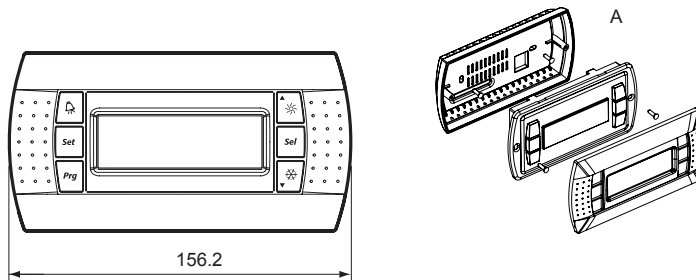

Fig. 8.3
4. Rest the front panel on the rear of the casing and fasten the assembly using the countersunk screws, as shown in Fig. 8.3.